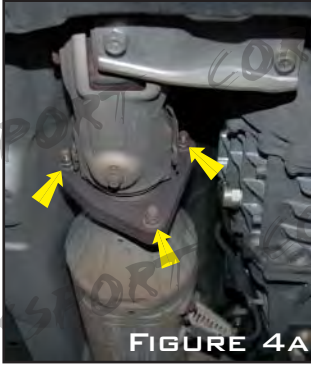

FIGURE 4A
A) UNBOLT THE THREE 1.4MM NUTS SHOWN IN FIGURE 4A FROM THE FORWARD FACE OF THE FORWARD FLANGE OF THE CATPIPE. ⚠️ THESE ARE THOSE NASTY 'I WANT TO PUT A SHARP STICK IN MY EYE' STAINLESS LOCKING FLANGE NUTS, AND BY DESIGN, THEY LOVE TO STRIP THREADS. APPLY COPIOUS AMOUNTS OF PENETRATING OIL AND USE THE 1.4MM SOCKET AND BOX END WRENCH TO BACK THEM OFF OF THE BOLTS. YOU MAY BREAK ONE OF THE PRESS IN BOLTS, BUT DON'T WORRY - WE SENT YOU THREE NICE CADMIUM PLATED BOLTS AND LOCK WASHERS/NUTS SO YOU WON'T HAVE TO REUSE ANYTHING REMOTELY RESEMBLING THOSE LOCK NUTS. IT DOESN'T HURT TO LEAVE ONE OF THE NUTS SLIGHTLY ON THE STUD TO KEEP THIS END OF THE PIPE IN PLACE WHILE DISCONNECTING THE OTHER END. RETAIN THE FACTORY GASKET, IT WILL BE REUSED. IF IT IS IN POOR CONDITION, REPLACE IT.
A) INSTALL THE PROVIDED 3X 35MM HEX HEAD BOLTS THROUGH THE FRONT FLANGE, USING THE FACTORY GASKET AND A LOCK WASHER AND NUT AS SHOWN IN THE FASTENER STACKUP FIGURE 4A. DON'T TIGHTEN THEM UP JUST YET, JUST GET THEM SNUG, YOU'LL NEED SOME RANGE OF MOTION TO CONNECT THE OTHER END.